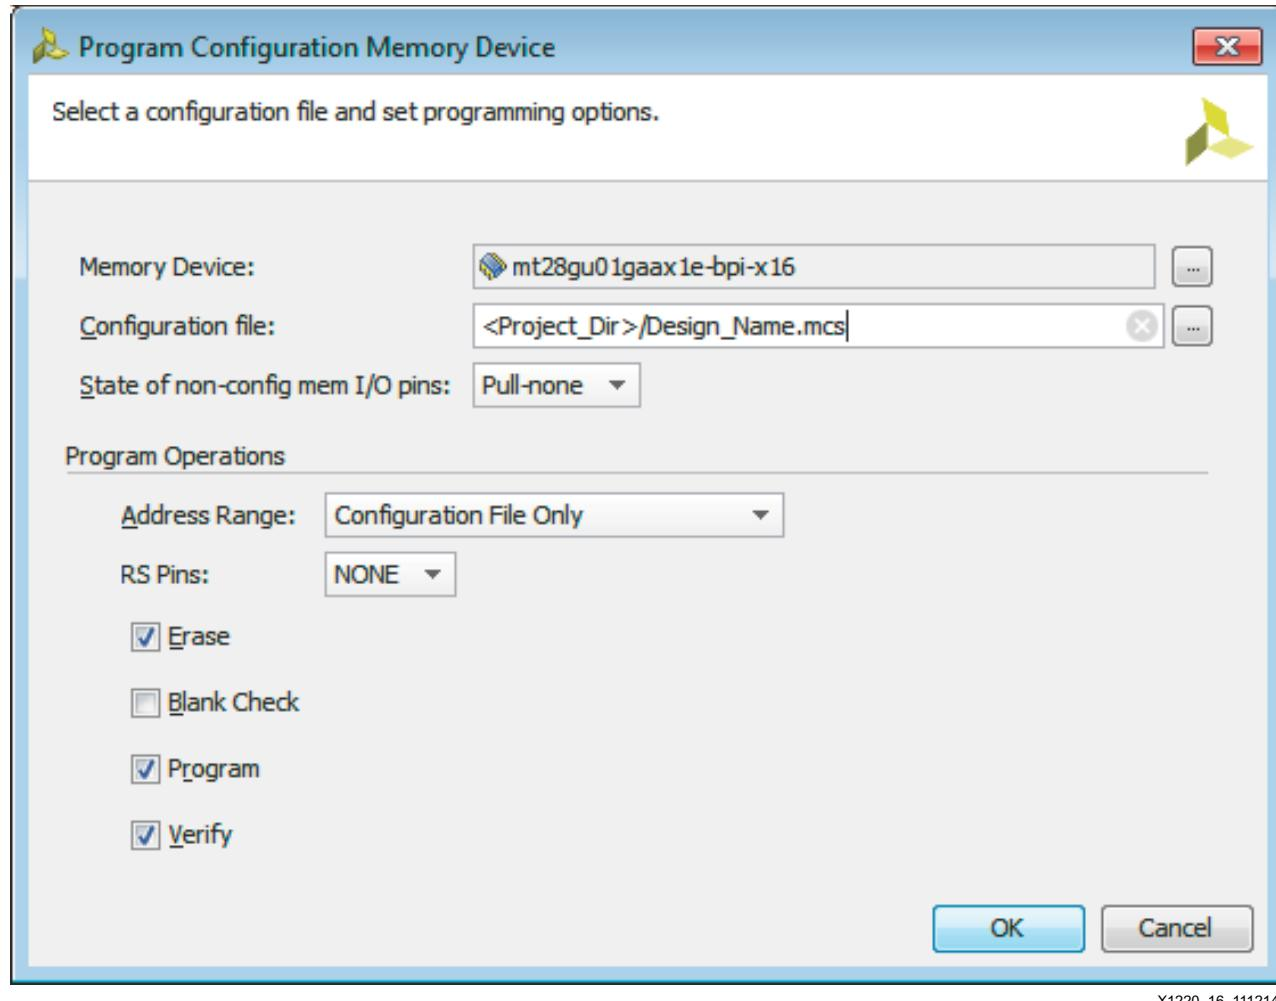

Figure 16: Programming Parallel NOR Flash
5. By default, a dialog box asks if you want to program the configuration memory device now. Click **OK** and enter the configuration file for the memory device in the window that follows, as shown in Figure 16. Click **OK** to begin flash programming.